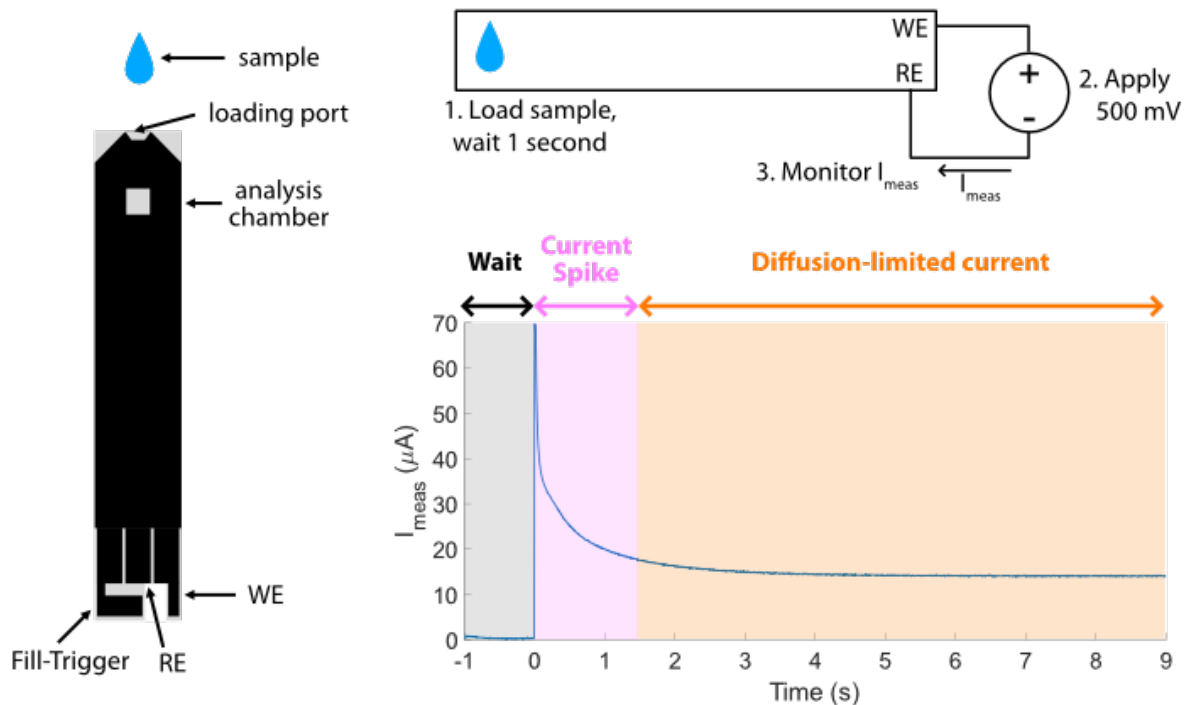

Figure 11: Test strip electrodes and sample current curve for 7.5 mM glucose (135 mg/dL).
The glucose test strips that we have provided to you have three electrodes (Figure 11). We will be using two: the Working Electrode (WE) and Reference Electrode (RE) (the third electrode, the Fill-Trigger is not used). Your circuit will apply a **+500 mV potential step** between the WE and RE and then measure the glucose-dependent current that develops.